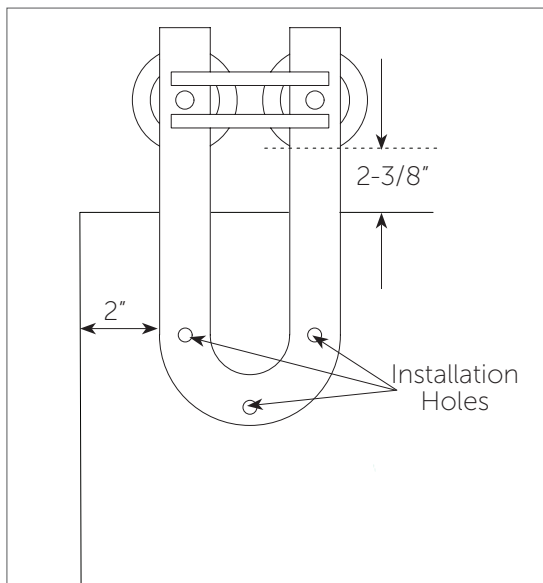

Figure 2
3. Adjust the placement of the hanger for a 2-3/8" gap between the top of the door and the bottom edge of the wheel. Ensure the widest portion of the hanger resting on the door is 2" from the edge of the door (Figure 2).
4. Mark the center of each installation hole with a pencil. (Figure 2).